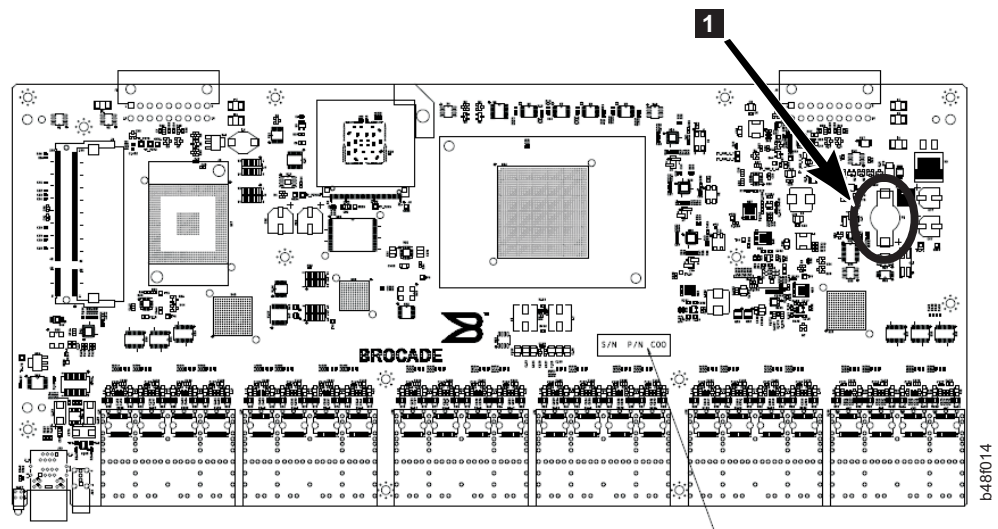

Figure 15. Location of battery holder
5. On the circuit board, go to the B1 location (**1** in Figure 15) and remove the BR1225 battery from the holder.